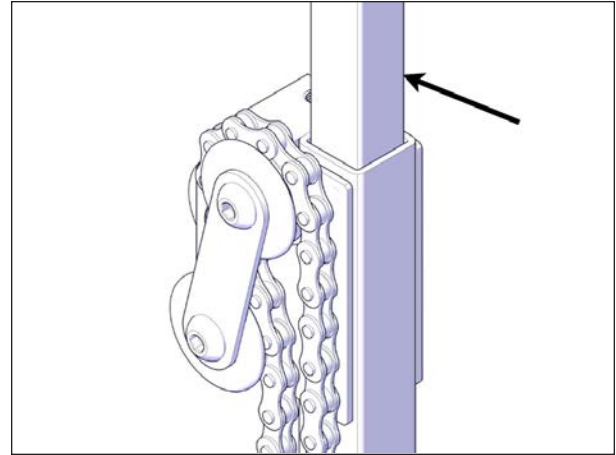

FIGURE 93: SLIDING PARTS GREASING
8. Spray grease on all the sliding parts and mechanical components for all four jacks see Figure 93.